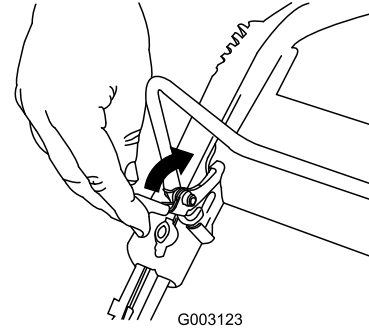

Figure 18
To shut off the engine, press and hold the engine-shutoff button (Figure 18) until the engine shuts off.
1. Pull the control-bar lock back (Figure 18).